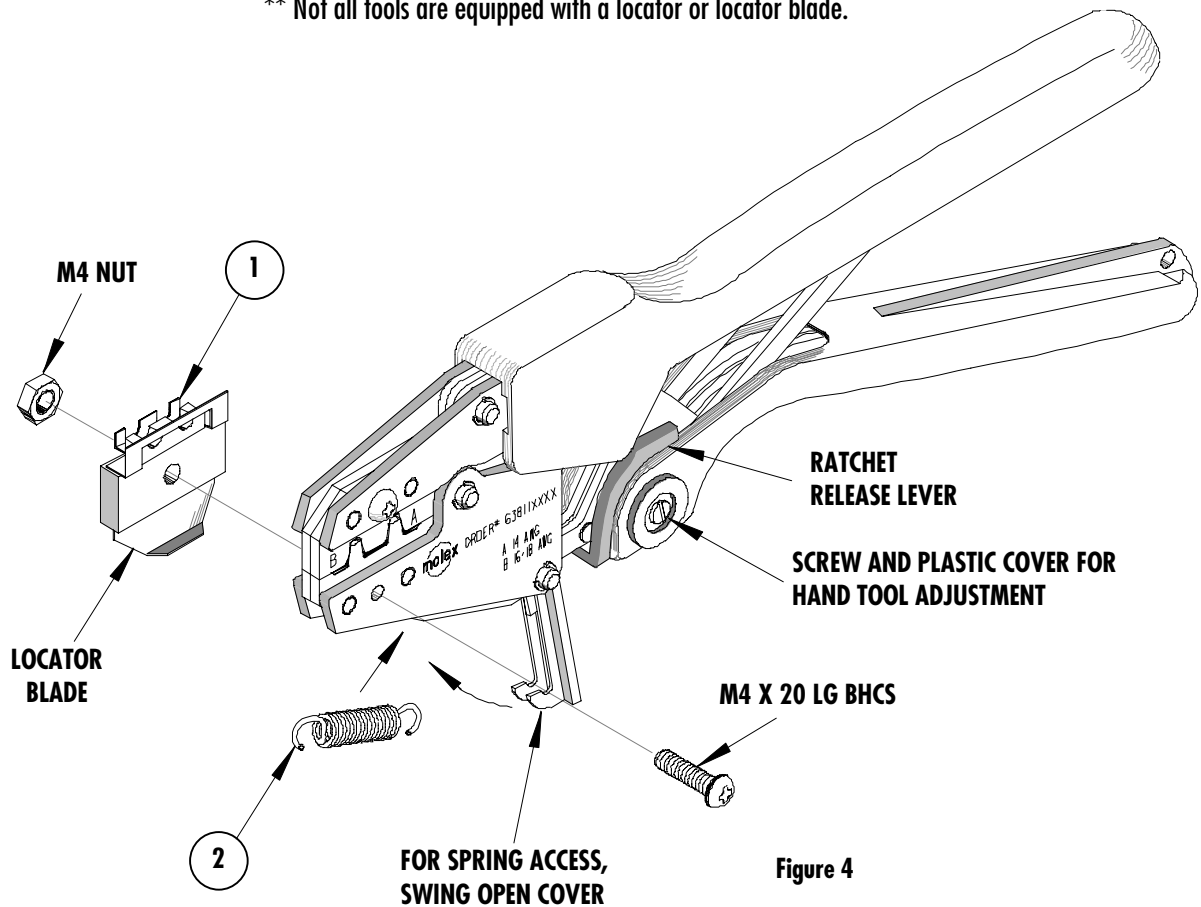

Figure 4
4. Close the tool until the ratchet releases, (See Figure 4).
Should this tool ever become stuck or jammed in a partially closed position, **Do Not force the handles open or closed.** The tool will open easily by lifting the ratchet release lever (See Figure 4).
How To Adjust Tool Crimp Force (See Figure 4)